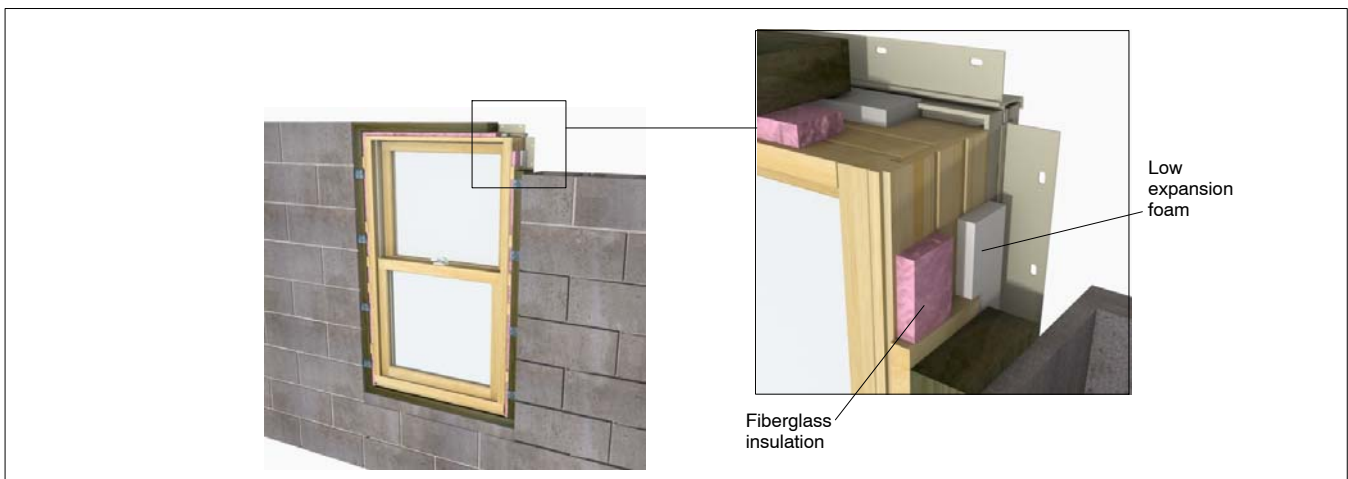

Figure 13: Insulating the rough opening
4. Apply a 1"–2" (25–51) thick bead of low expansion foam insulation on the back side of the nailing fin, brick mould casing or other trim. Do not apply too much as it is possible to bow the jambs. Now insulate loosely around the window with fiberglass insulation. See figure 13.
5. **Interior and mullion trim:** Install mullion trim after interior trim or casing is applied. On Ultimate Double Hung units, be sure to use nails and staples that are no longer than 3/4" (19). Place fasteners at least 1" (25) from the edge of interior jamb liner.